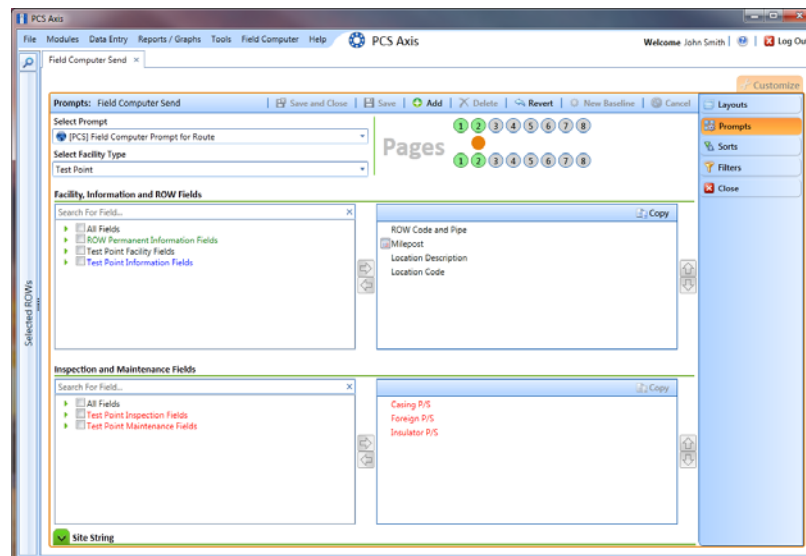

Figure 7-35. Prompts
- 16 If you have multiple pages of prompts, clicking a page number icon displays prompts for the selected page. For example, clicking  displays prompts set up in page 2 as shown in the following example (Figure 7-35).